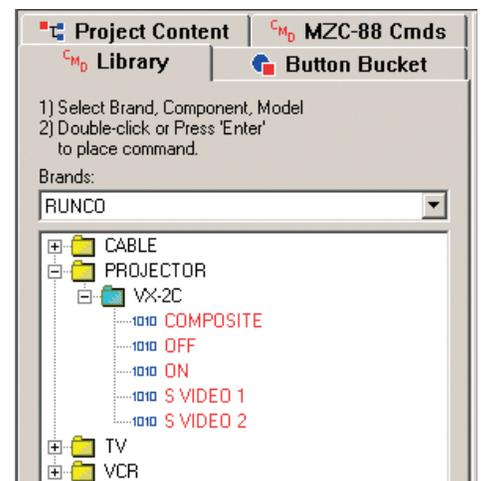

Figure 11
14. When all Command Properties for the specific command being edited have been made, click OK. The command will be added to the CMD Library and will be designated with a "1010" icon. The next New Command will automatically come up in the Command Properties Window. Typically, a manufacturer will use the same settings for baud, Data Bits, etc., so all that need be done is to type in the ASCII or HEX code for the individual commands. When all New Commands have been formatted, the Command Properties Window will close and all commands will be listed in the appropriate CMD Library List. (Refer to **Figure 11**)